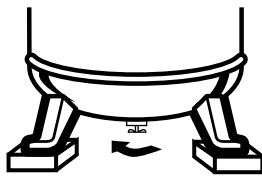

Figure 6 - Opening Drain Cock
1. Open drain cock completely and run the compressor for 60 minutes (see Figure 6)
Drain Tank (See Figure 6)	●